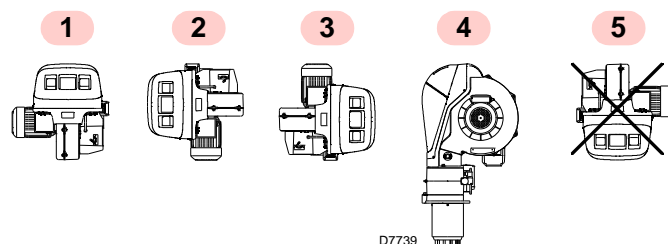

Fig. 9
- The burner is designed to operate only in positions 1, 2, 3 and 4 (Fig. 9).